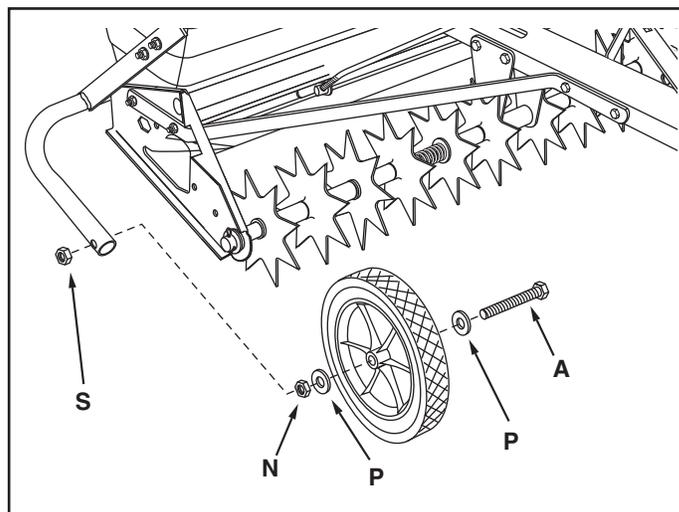

FIGURE 24
38. Assemble a 1/2" x 4" hex bolt (A), a 1/2" washer (P), a wheel, a 1/2" washer (P), and a 1/2" jam nut (N). **Finger tighten only.** Attach the wheel assembly to the transport tube using a 1/2" nylock hex jam nut (S). Repeat for the other side. See figure 24.